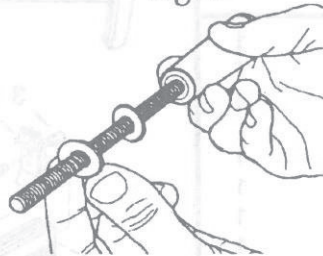
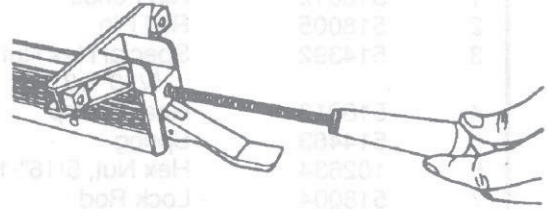

Fig. 3
Fig. 4
2. Place two washers (14) on the shaft of the handle (13), as in Fig. 3. Insert the handle into the fence base (15), as seen in Fig. 4.